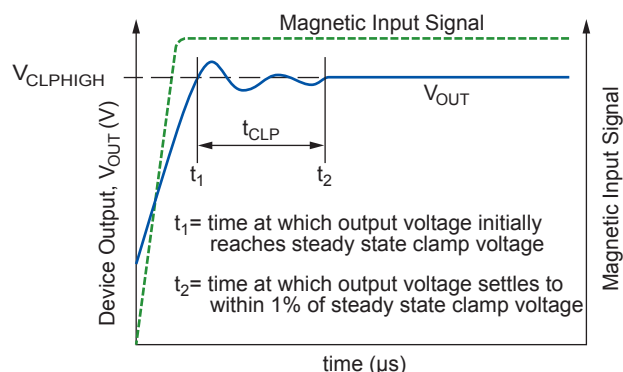

Figure 2. Definition of Delay to Clamp,  $t_{CLP}$
**Delay to Clamp.** A large magnetic input step may cause the clamp to overshoot its steady-state value. The Delay to Clamp,  $t_{CLP}$ , is defined as the time it takes for the output voltage to settle within 1% of its steady-state value, after initially passing through its steady-state voltage, as shown in figure 2.